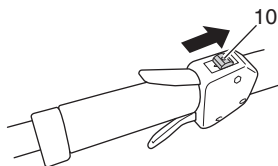

Fig. 8
- (1) Set ignition switch (10) to ON position. (Fig. 8)